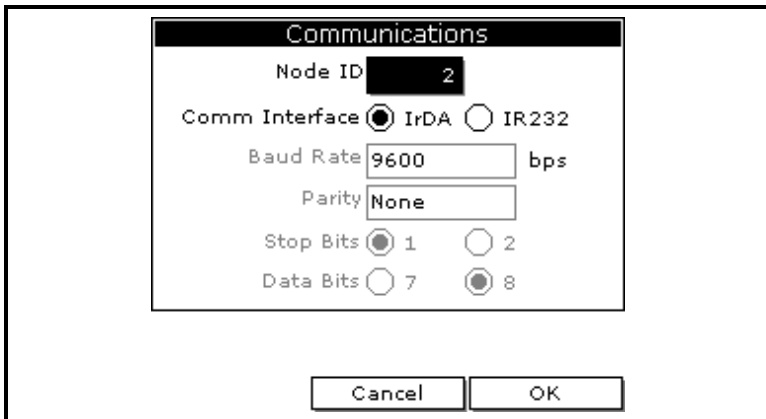

Figure 7-1: The Communications Window
3. Use the arrow key to scroll to **Communication** and press [ENTER]. The Communications window appears similar to Figure 7-1 below.